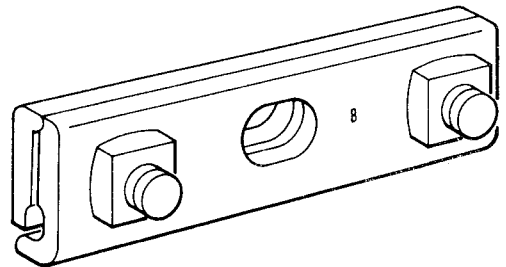

Fig. 5—B Cable Suspension Clamp
5.01 The B cable suspension clamp (Fig. 5) is used to support suspension strand: